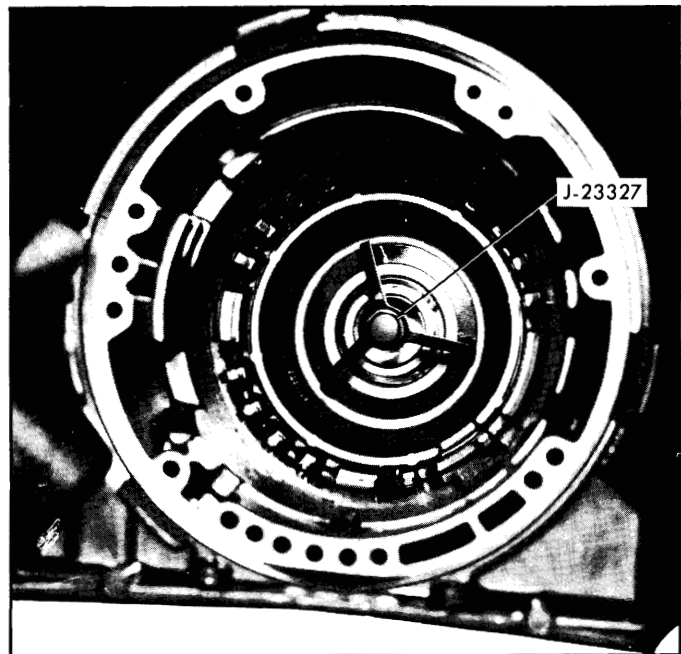

Fig. 7-51—Compressing Low and Reverse Clutch Piston Spring Retainer
20. Compress low and reverse clutch piston spring retainer using Tool J-23327 and remove piston retaining ring and spring retainer. (Fig. 7-51)